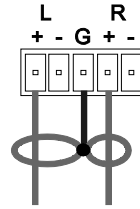

Figure 6: Connecting an Unbalanced Stereo Audio Output
- An unbalanced stereo audio output connection, see Figure 6